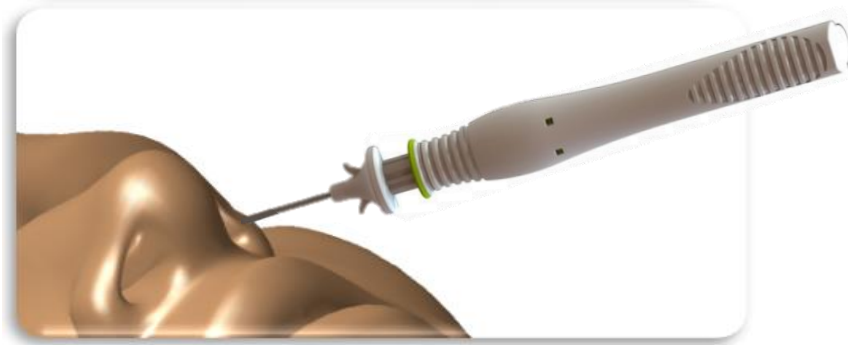

Figure 7: Approximate Delivery Device orientation relative to nasal anatomy
- Under direct visualization, the delivery cannula is inserted through the nasal vestibular lining of the lateral wall within the nasal cavity near the margin of the nostril. A small conventional scalpel incision at the target cannula entry location may be optionally created to ease cannula puncture. Approximate Delivery Device orientation and cannula trajectory is shown in **Figure 7** below.